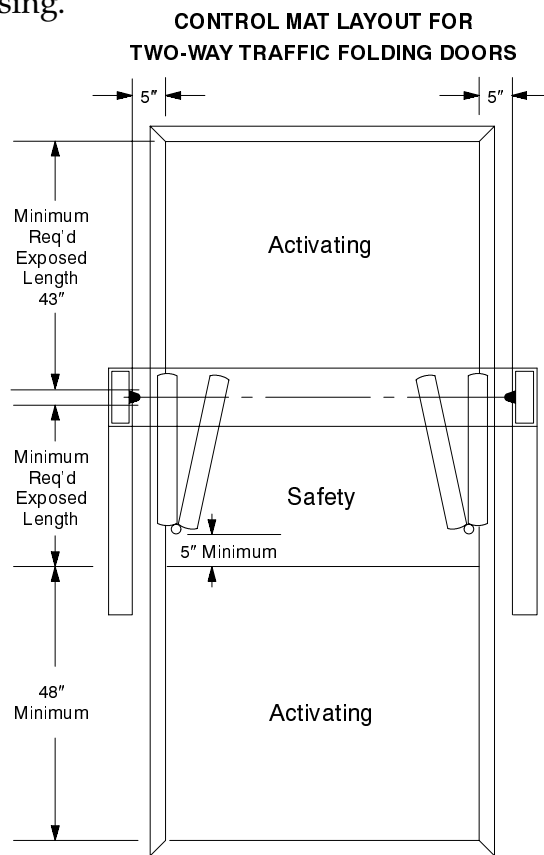

Figure 1
3. Approach the fold side of the door first, then have someone else approach the non fold side of the door. As long as you are in the safety area (fold area) of the door, it should not open (See Figure 1).